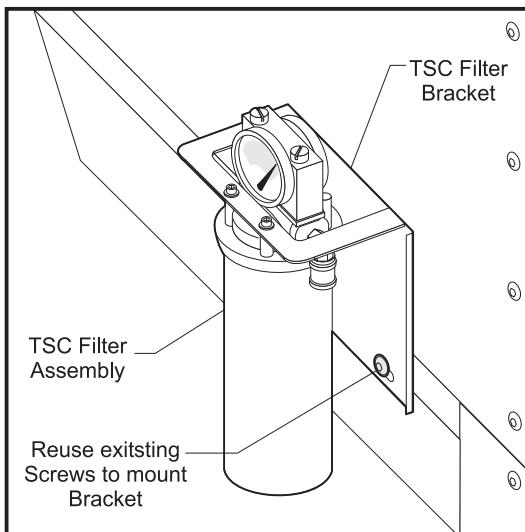

Figure 7-3. 100 Micron TSC filter.
- ✓ Check dirt indicator on 100 micron filter (Figure 7-3) with TSC system running and no tool in the spindle. Change element when the indicator reaches the red zone.